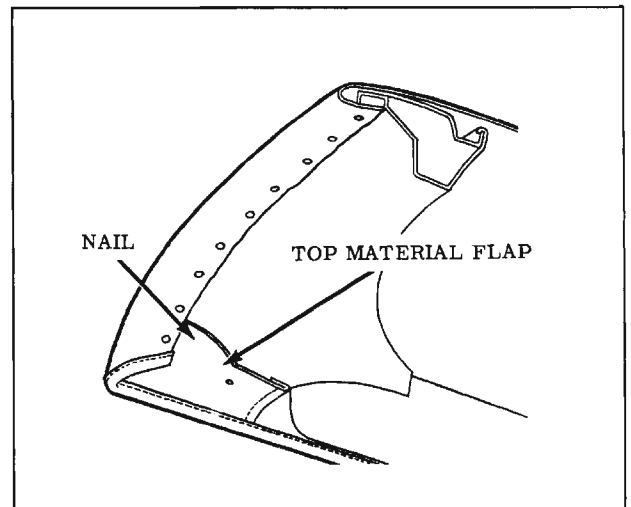

Fig. 16-110 Top Material Attachment at Roof Rail
4. Loosen front end of each side roof rail front weatherstrip sufficiently to detach top material flaps which are nailed and cemented to rails. (Fig. 16-110)